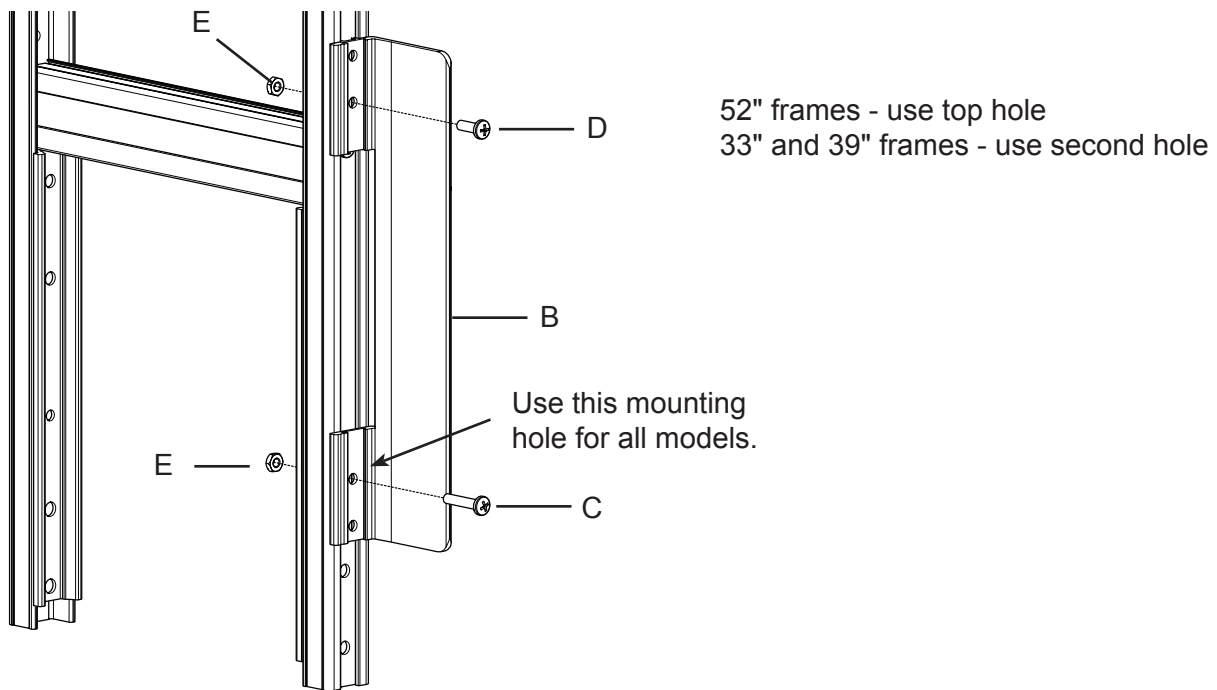

Figure 3
2. Assemble lower wings to each side (see Figure 3).
- b. Align one lower wing (B) against the side rail so that the second hole from the bottom is aligned with this hole. Install one 1/4"-20 x 1-1/4" long screw (C) and secure with one hex lock nut (E). Finger tighten for now.
- b. Locate the hole in the side rail just above the lowest cross brace; use a hammer and screw to pierce the red stripe. **If hole does not exist in frame:** Drill \varnothing .328 hole through the correct hole in wing as indicated in Figure 3 and through the side rail.
- c. Insert the 1/4"-20 x 3/4" long screw (D) through the upper mounting hole in the wing as indicated in Figure 3; secure with hex lock nut (E). Finger tighten for now.